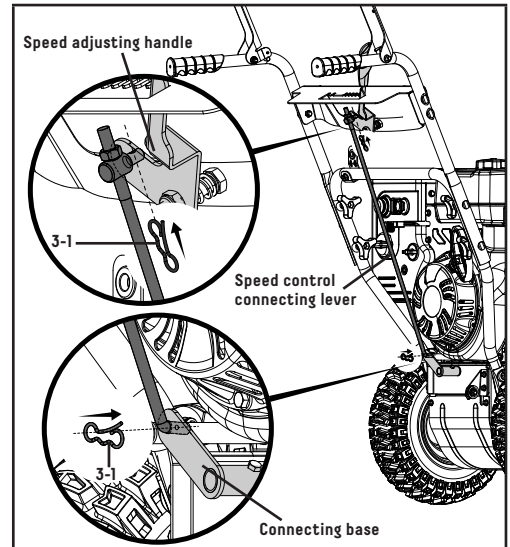

Figure 6
2. Connect the connecting lever and speed adjusting handle with clip (Fig. 6).